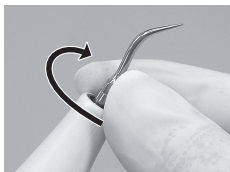

Fig.2
1) Turn Tip lightly by hand, and install it. (Fig.2)